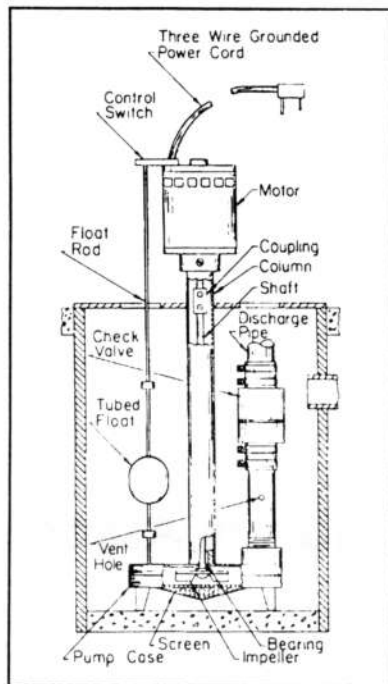

Figure 1
1. The *pedestal* (also referred to as column type or upright) sump pump is a unit furnished with an open motor supported by a column attached to the pump casing. When installed, the motor projects out of the sump and above the basement floor. See Figs. 1 & 2.